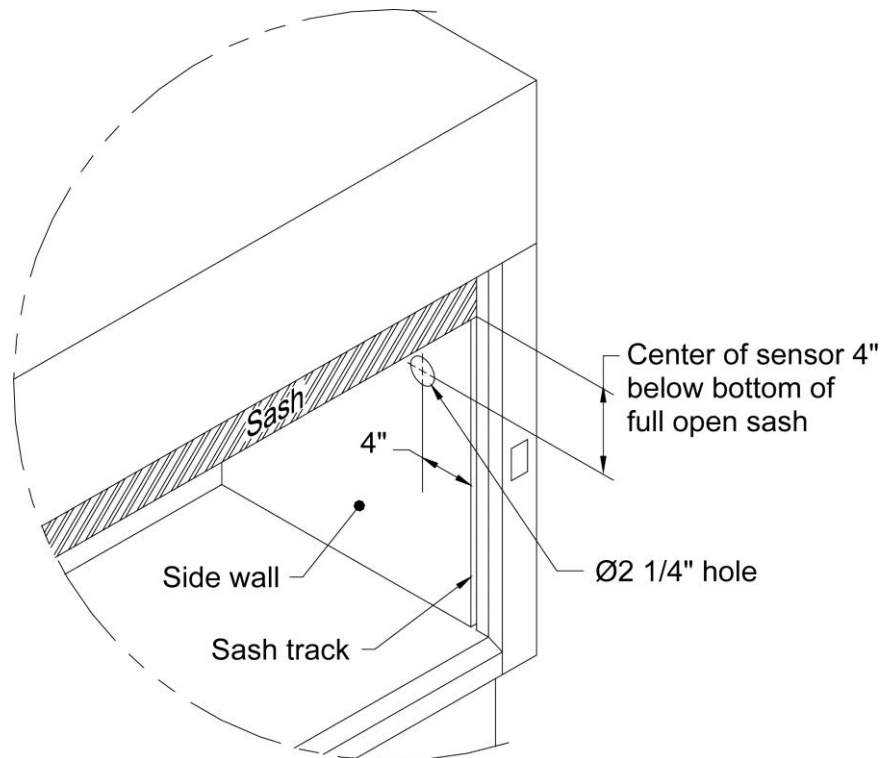

Figure 2: Sidewall Velocity Sensor Location
1. Determine the Sidewall Velocity Sensor Location (Figure 2).
2. Drill a 2¼" hole through the fume hood inner wall lining at this location (Figure 2).